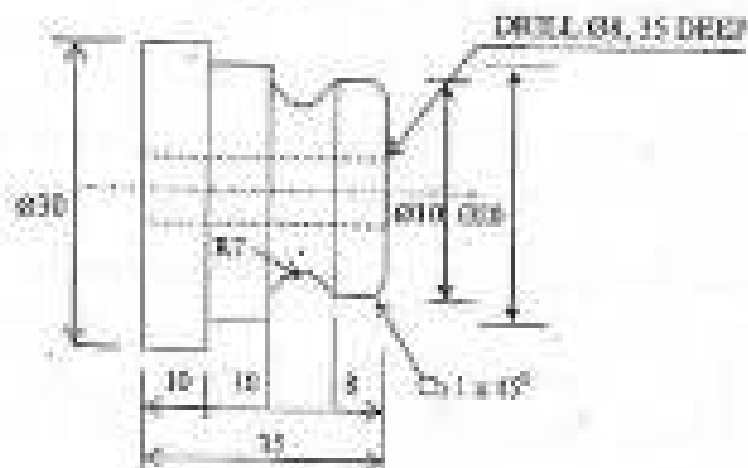

Figure 1. Material: M. S. 650 Bar
**Q1) The component shown in Fig. 1 is to be processed on a single spindle lathe. Study the component and prepare:** [18]